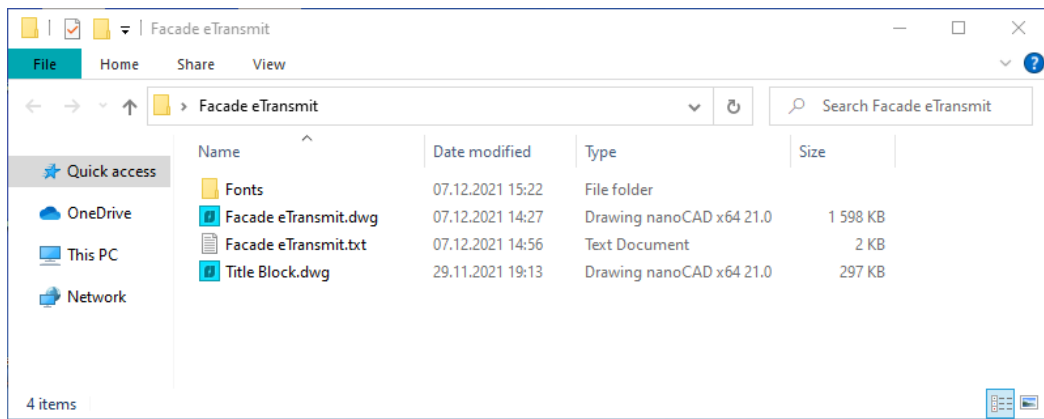

Fig. 45. Unzipped archive
4. Unzip the transmittal archive, open the drawing file (fig. 45 – 46):